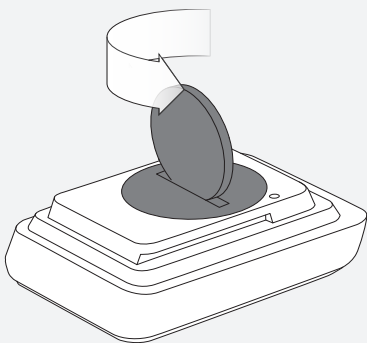

Figure 10. Removing the Battery Cover
1. Remove the computer from its base. Rotate the battery cover about one-quarter turn in a counter-clockwise direction (Figure 10). A coin or flat head screwdriver works well for this.